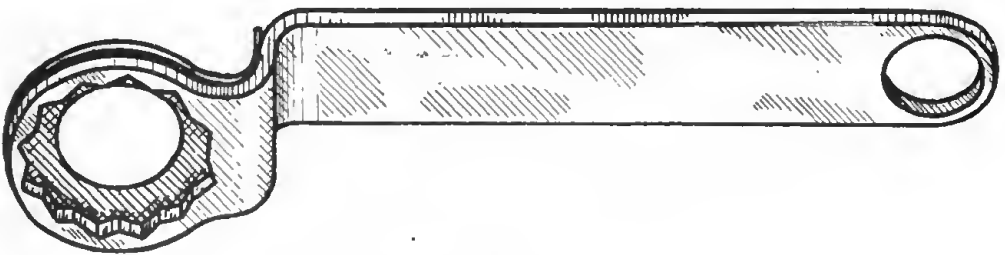

Figure 20. Palnut wrench.
(3) In assembly plants, depots, and subdepots, the torque wrench is a familiar tool. The line mechanic does not ordinarily use one because his work does not usually include work on which a torque wrench is essential. The mechanic should, however, consider proper torque whenever he works on the airplane. This is especially true when he is using an adjustable-jaw or socket wrench on small nuts and bolts, as the length of the handle makes it easy to apply too much torque.
c. PALNUT WRENCH. A palnut wrench is a thin, short-handled box-end wrench. It has a restraining plate on one side which prevents it from passing completely over the palnut. It is used to tighten and loosen palnuts but is not strong enough to be used on ordinary nuts and bolts. An ordinary wrench could be used for this purpose but would take more time since it has no restraining plate to prevent it from sliding past the palnut. (See fig. 20.)